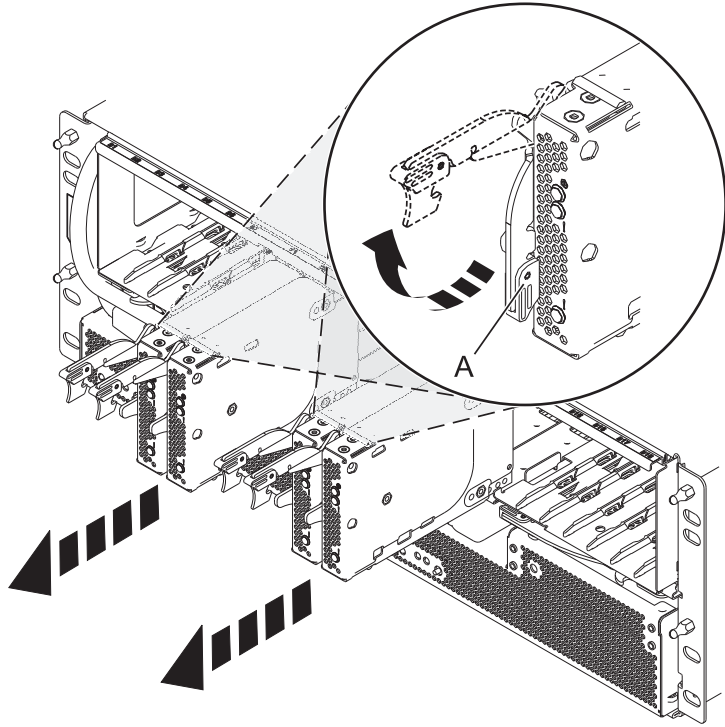

Figure 78. Removing the port card from the backplane
4. Remove the port cards and fillers as shown in Figure 78 on page 139.